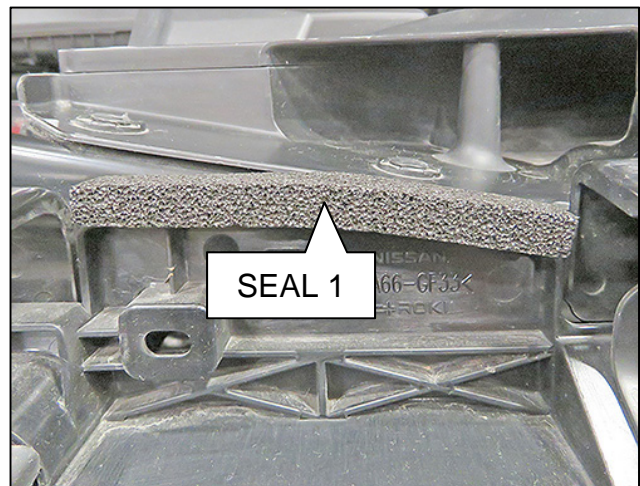

Figure 8
- It is centered on the radiator mounting bracket as shown in Figure 8.